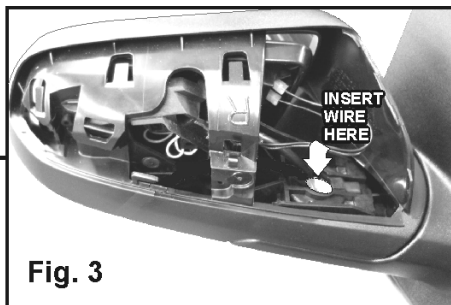

Fig. 3
cable exiting the front of the mirror assembly (Figs 3 & 4).
4. Locate the two, 6" strips of double-sided adhesive tape (included). Peel the protective strip from one side of one piece of tape and mount it onto the top of the mirror assembly curving around the outboard side. When properly positioned, the tape will go along the rear (mirror side) edge of the mirror assembly cover. After the tape is mounted, it is important to apply pressure to the protective backing so that the tape adheres to the surface (Fig. 3).